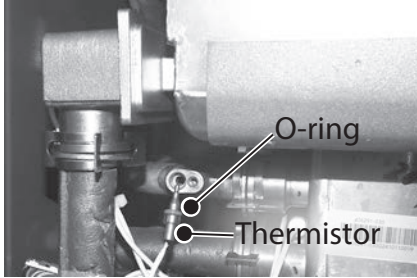

Figure 77 - Thermistor O-ring location
- 25 Locate the new thermistor, O-ring and metal clip provided in the kit. Install O-ring on the thermistor. See Figure 77.